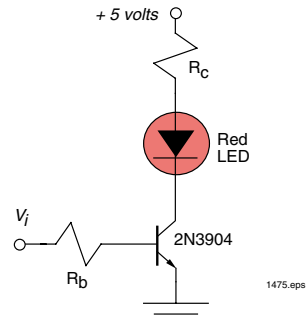
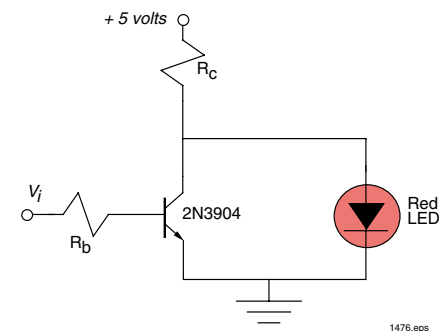

Figure 8.3 Single NPN transistor switching circuit for driving a fiber optic LED.
Figure 8.4 Transistor shunt circuit for driving a fiber optic LED that would reduce power supply current ripple.
A very simple electronic circuit that can be connected to the output of any TTL or CMOS logic gate for driving a LED is shown in **Figure 8.3**. It will drive an LED with up to 50 mA of current, and a frequency of several megahertz.
1. Calculate the resistor value, R_c , needed to permit a current of 20 mA through the LED in **Figure 8.3** when the transistor is saturated. Assume the $V_{ce(\text{sat})} = .2$ volts and the V_f for the LED to be 1.8 volts.
4. Assemble the circuit shown in **Figure 8.3** on your solderless breadboard. Use the pin diagrams found in the **APPENDIX** to identify device connections.
Table 8.1 Measured data taken from the circuit shown in Figure 8.3.
Fiber optic communication systems are often duplex in configuration, and have transmitters and receivers adjacent on a printed circuit board. The on/off current of the LED driver may cause power supply ripples or generate noise that could affect the adjacent receiver. Driving the LED in a push/pull arrangement that shunts the current when the LED is not on can reduce power supply ripple. (This provides a more constant current drain from the power supply.) **Figure 8.4** is a modification of the circuit in **Figure 8.3** that does exactly that.
15. Reconfigure the electrical components on the breadboard to match those with the circuit shown in **Figure 8.4**.
Table 8.2 Measured data on the LED drive circuit shown in Figure 8.4.
Is the measured voltage across the collector of 2N3904 transistor in **Figure 8.3** for the LED "on" and "off" compare to what you expected? Why or why not?
With the LED "on" in **Figure 8.3** calculate the "on" current using the measured data in this activity for $V_{ce(sat)}$ and V_f .
Using the measured rise time from **Table 8.1**, calculate the 3 dB bandwidth for the circuit shown in **Figure 8.3**.
Calculate the average current used by the LED driver in **Figure 8.3**, assuming it is being driven at a 50 percent duty cycle.
Using the measured value for V_f , calculate the current through the LED in **Figure 8.4**.
Calculate the current through the 2N3904 in **Figure 8.4** when it is on and the LED is off.
What is the average current through the circuit shown in **Figure 8.4**, assuming that it is being driven at a 50 percent duty cycle?
Comparing the peak current and average current for the circuits in **Figures 8.3** and **8.4**, which would cause the greatest power supply ripple? By how much?
What is the difference between the circuits in **Figure 8.3** and **8.4**? (HINT: Consider inverted and non-inverted functions.)